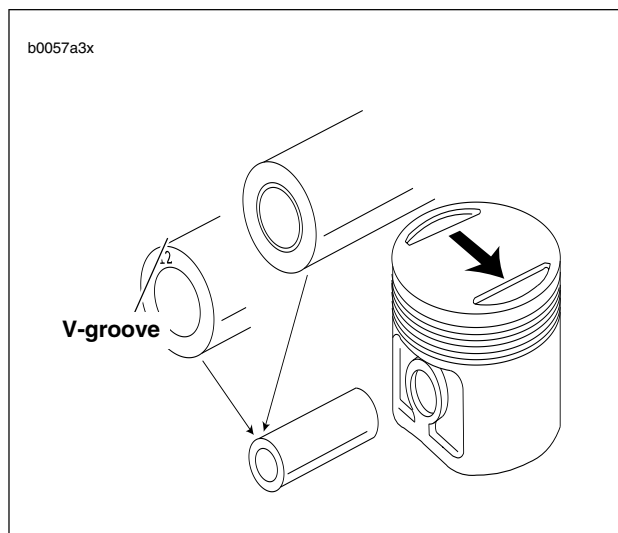

Figure 3-32. Piston Pin and Piston Identification
Since the piston pin is a loose fit in the piston, the pin will easily slide out. The pins have tapered ends to help seat the round retaining rings. See Figure 3-32. Piston pins are stamped with a V-groove at one end.
9. Mark each pin boss with either an "F" or an "R" to indicate front or rear cylinder, respectively. See Figure 3-32. The arrow at the top of 1200cc pistons must always point toward the front of the engine.